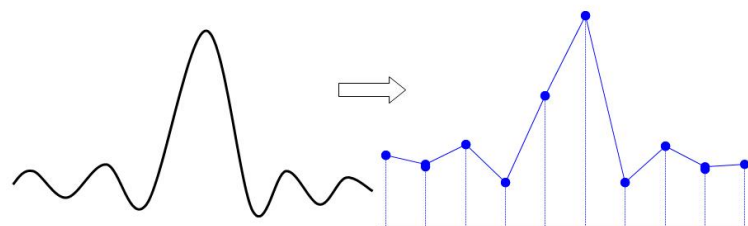

Figure 10-1
- **Waveform Distortion:** Due to low sampling rate, the details of the waveform might be missing, the sampling waveform might be different than the actual signal. As shown in Figure 10-1.